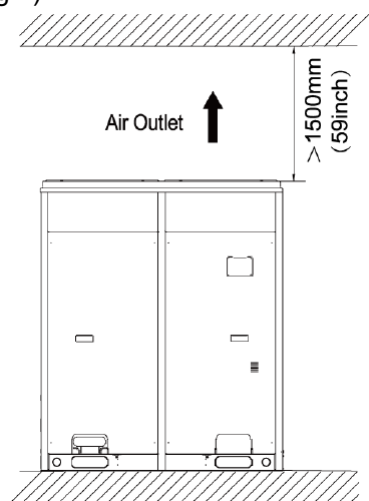

Fig.1
(1) If all sides of the ODU (including the top) are surrounded by walls, process according to the following requirements for installation space:
(2) When there is wall (or similar obstruction) above the unit, keep the distance between the unit top and the wall at least 3000mm (118-1/8inch) or above. When the unit is located in a totally open space with no obstructions in four directions, keep the distance between the unit top and wall at least 1500mm (59inch) or above (See Fig.1). When space is limited within 1500mm (59inch) or the unit is not set in an open space, air return pipe is required to be installed in order to keep good ventilation (See Fig.2).